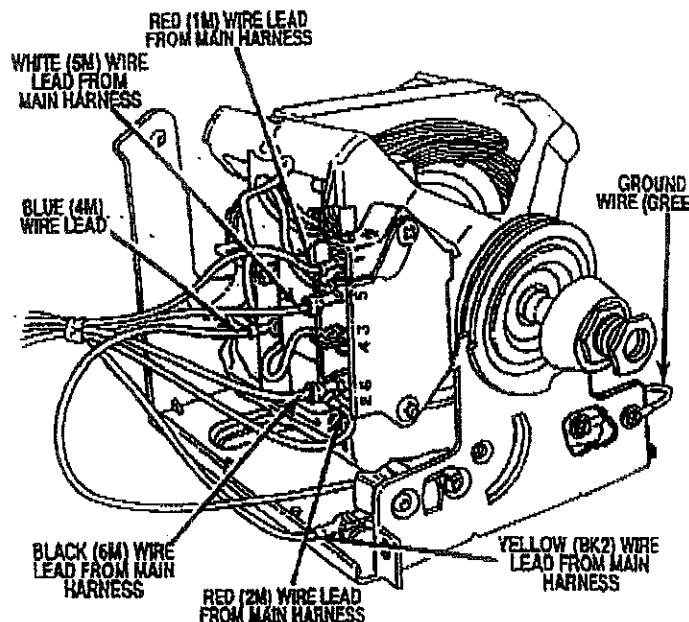

FIGURE 3
- Connect the blue (4M) wire lead from the broken belt switch to the vacant terminal located on the back of the overload protector of the motor switch. See Figure 3.
- Connect the red (1M) wire lead to the $\frac{1}{4}$ " terminal marked "1" on the motor switch. See Figure 3.
- Connect the red (2M) wire lead to the $\frac{1}{4}$ " terminal marked "2" on the motor switch. See Figure 3.
- Connect the yellow (BK2) wire lead to the vacant terminal on the broken belt switch. See Figure 3.
- Connect the white (5M) wire lead onto the $\frac{1}{8}$ " terminal marked "5" on the motor switch. See Figure 3.
- Connect the black (6M) wire lead onto the $\frac{1}{8}$ " terminal marked "6" on the motor switch. See Figure 3.
- Reconnect ground wire to motor. See Figure 3.